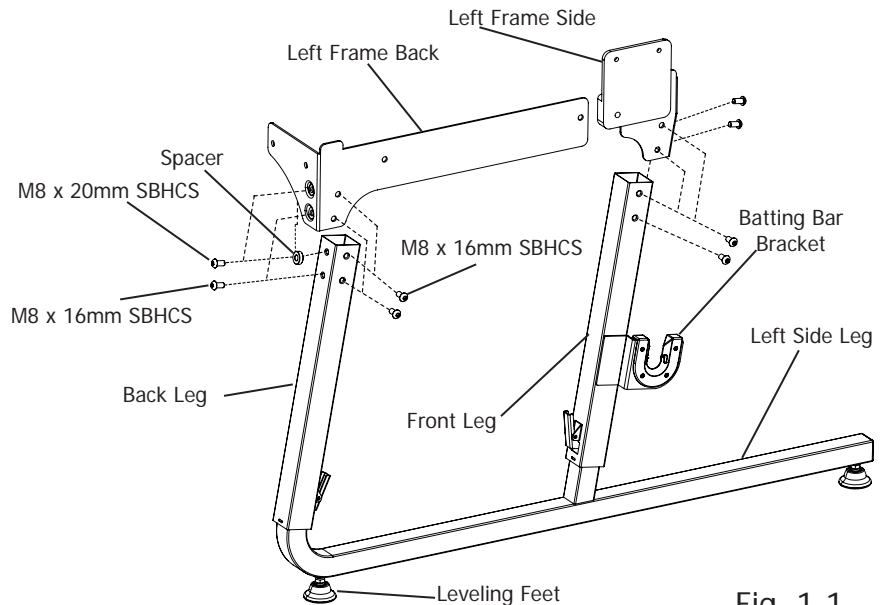

Fig. 1-1
1-1: Screw two (2) leveling feet into the bottom of the left side leg, as shown in Fig. 1-1.